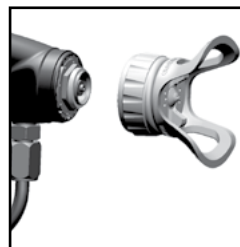

Fig. 4
1. Remove air cap along with spray tip. (See fig 4)
5. Replace the air cap along with spray tip (See fig 4)